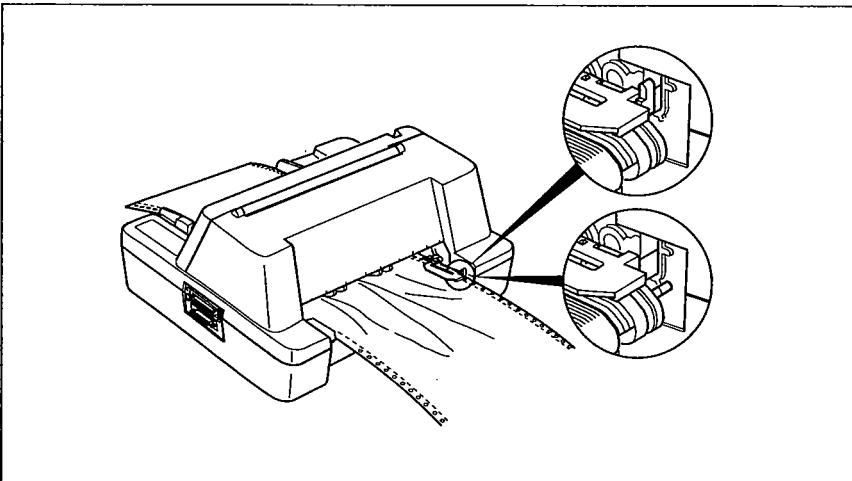

Figure 3-10 Adjusting the tractor position
- 6 Slide the right tractor to left to take up any slack in the paper, then fasten the lock lever to fix the tractor in position as shown in Figure 3-10.